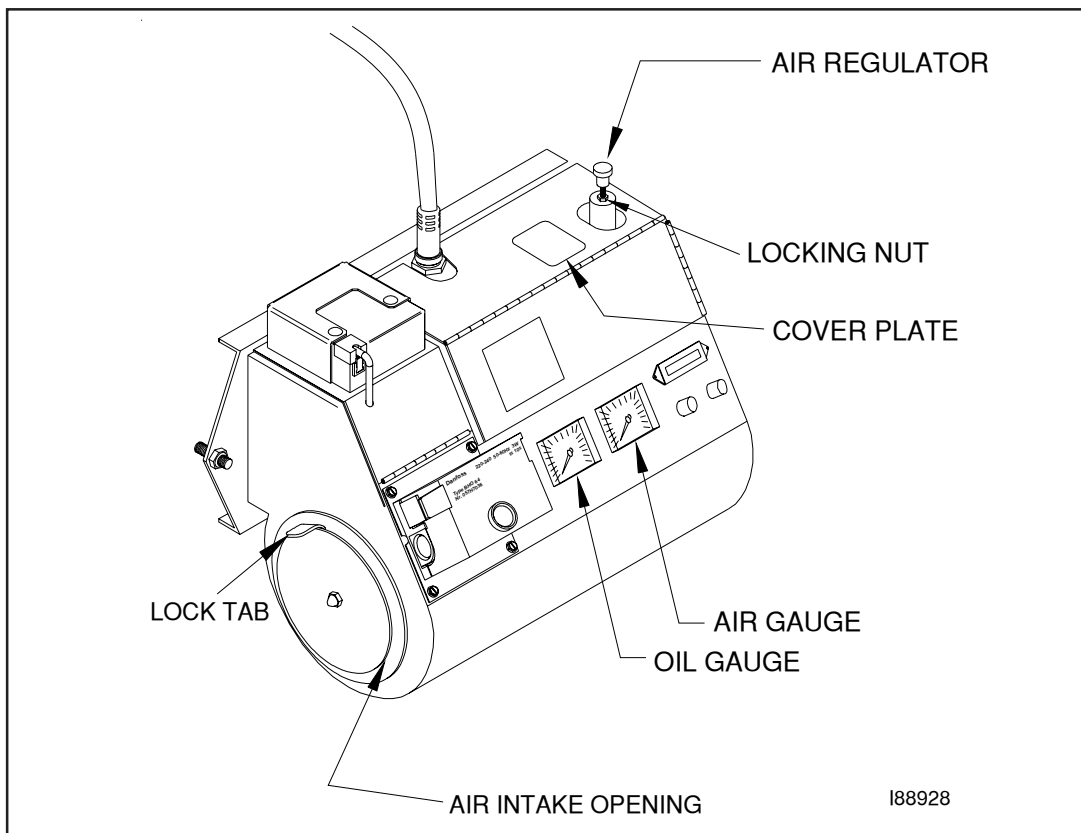

Figure 6B - Component Detail of the CB-550-CE Burner for CB-5000 Furnaces
- Refer to **Figure 6B** to locate the air intake. Note that the burner has an adjustable air intake with a locking tab.